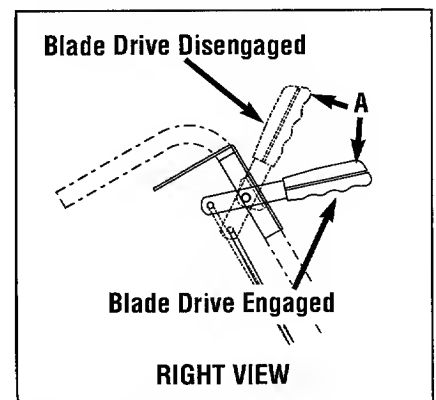
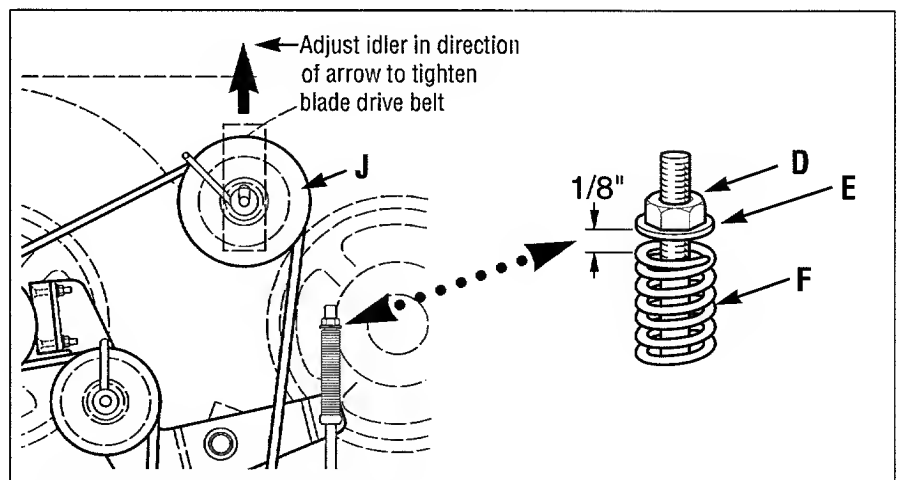

Figure 5-7: Blade Drive Control.
Figure 5-9: Blade drive adjustment.
2. Disengage blade drive control (Figure 5-7) by releasing all controls on the mower.
2. Have an assistant hold down Operator Presence Control and then push the Blade Drive Control forward until it latches in place (Figure 5-7).
4. With the Blade Drive Control (Figure 5-7) in the disengaged position, set a gap of 1/8" between the spring (F, Figure 5-9) and flat washer (E) by adjusting the nut (D).
7. If the drive belt slips during operation, it may be necessary to relocate idler (J, Figure 5-9) in the slot provided in the mounting bracket. **With the engine stopped and the spark plug wire disconnected**, loosen the hardware on the idler (J) and slide it forward to take up slack in the belt.